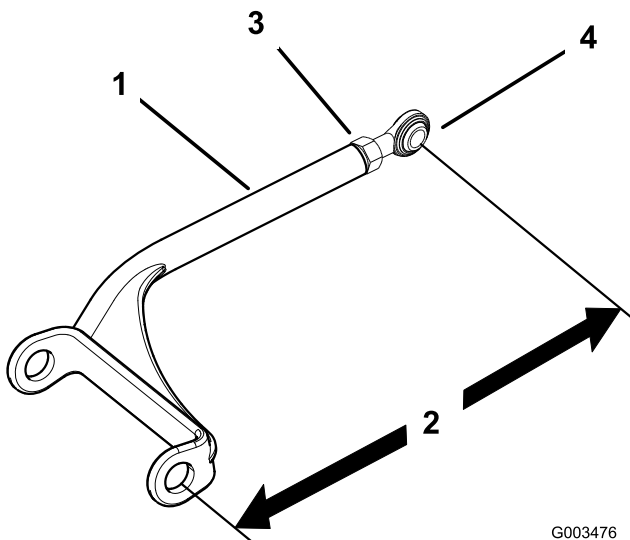

Figure 52
1. Loosen the jam nut and rotate the ball joint counterclockwise, one turn at a time (Figure 52).
2. Adjust each side the same amount. Each push arm should have a length of 15-1/8 inch (384 mm) (Figure 52).